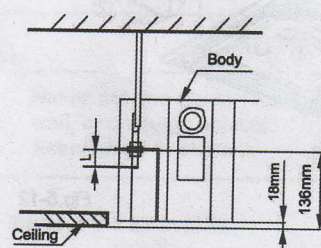

Fig. 5-6
- Adjust the position to ensure the gaps between the body and the four sides of ceiling are even. The body's lower part should sink into the ceiling for 18 mm (Refer to Fig.5-6).
- In general, L is half of the screw length of the installation hook. (Refer to Fig.5-6)